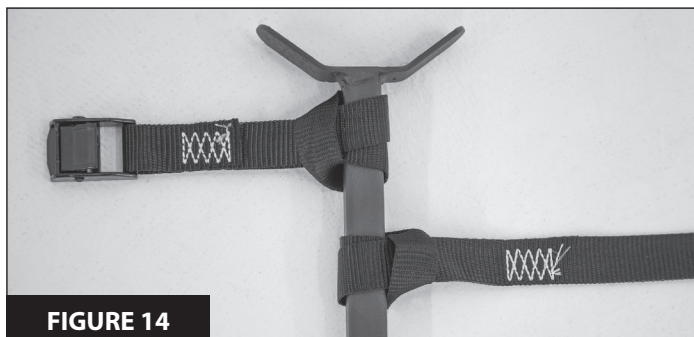

FIGURE 14
4. While two people hold the stand in place, the third person should connect the horizontal stabilizer bar to the tree. Adjust the length of the stabilizer bar as need so it contacts the tree and is level to the ground. Then secure it to the tree with the 6' cam strap (44) by forming a cinch knot with both ends of the strap and running the long end of the strap through the cam buckle. **SEE FIGURES 14 AND 15.**